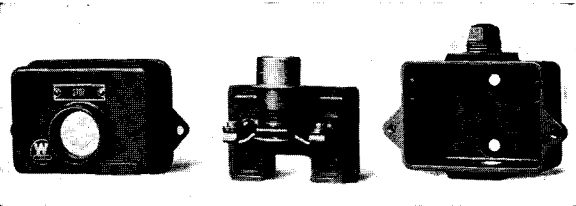

Fig. 17—Single-Button "Break" Station
51. Fig. 17 shows a single-button "break" type station. In this type the circuit is normally closed. When the button is pressed in against a spring action, the disc is moved away from its contacts and the circuit is broken. The circuit is again closed when the button is released.